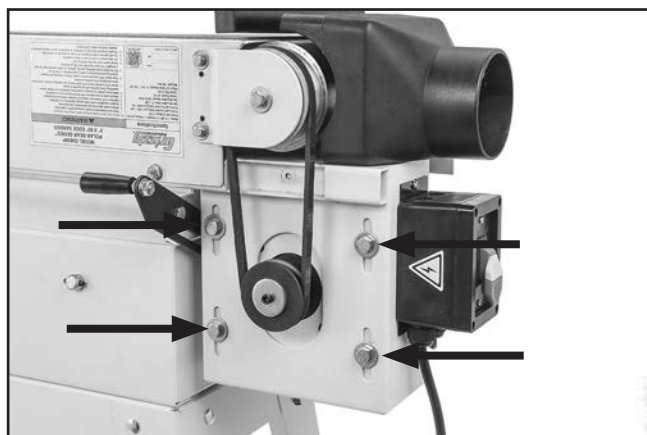

Figure 55. Motor mount fasteners location.
5. Loosen motor mount fasteners (see **Figure 55**).
9. Tighten motor mount fasteners (see **Figure 55**).